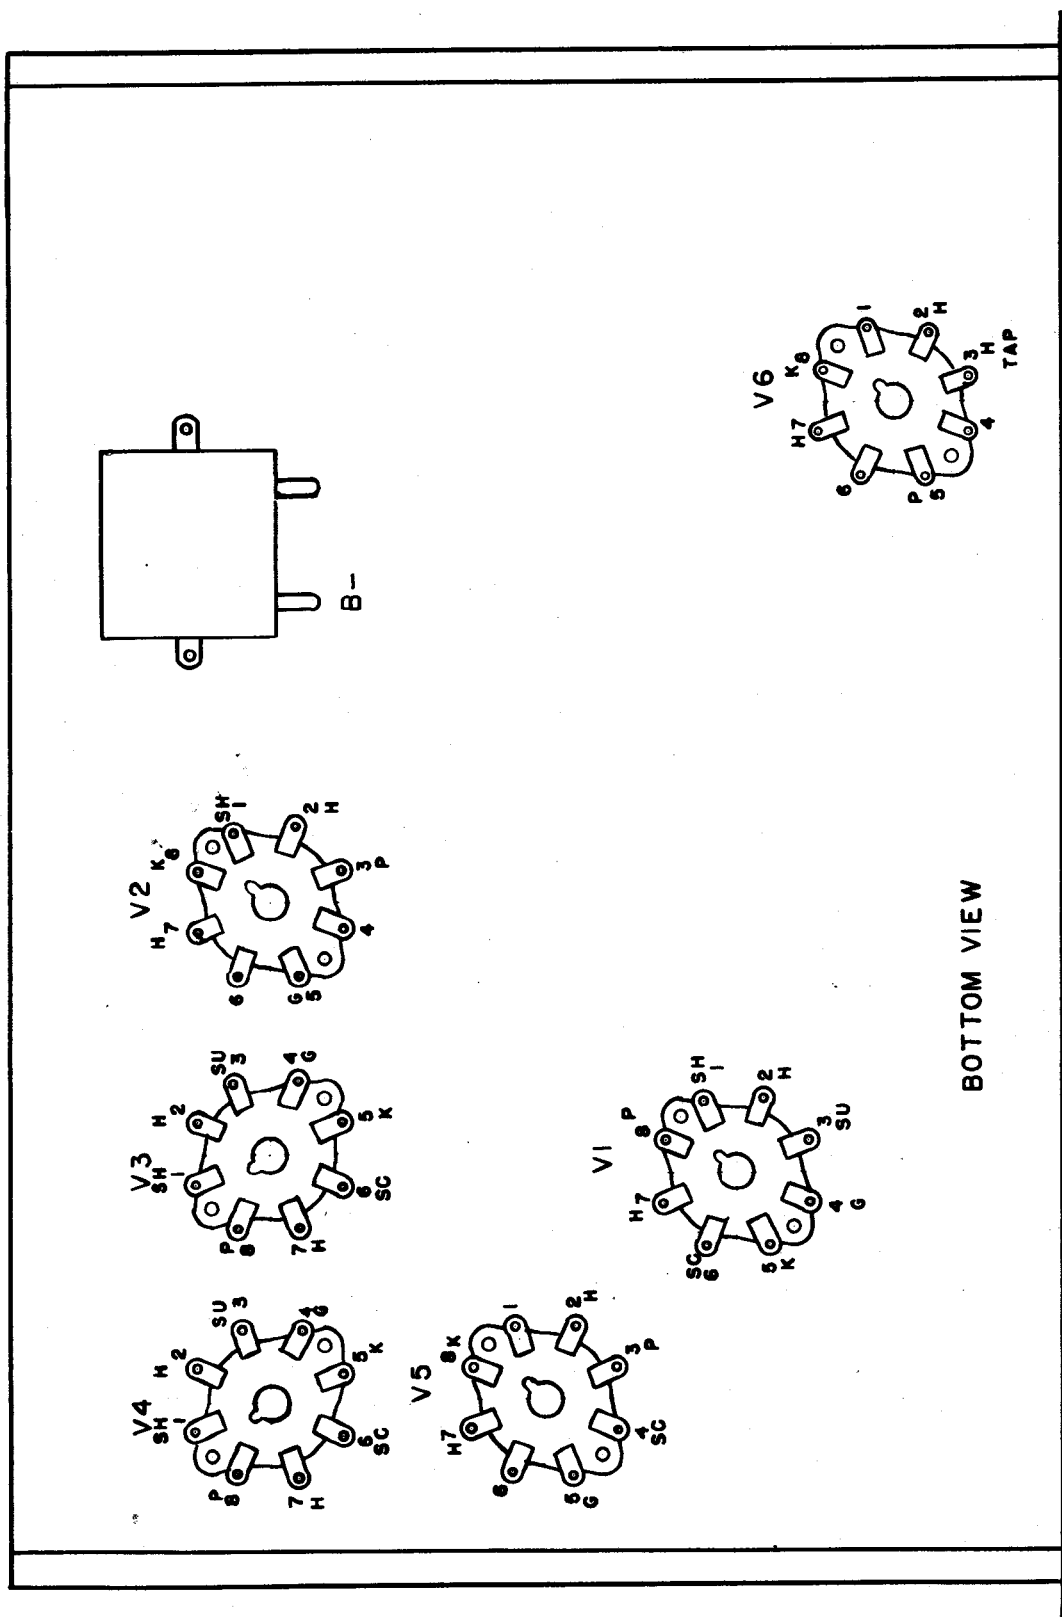

Figure 8—Radio Receiver 128-AY, Tube Socket Location Diagram.
15. Resistance Measurements.—*a.* In the event that the trouble cannot be located by means of any of the preceding tests, it will be necessary to analyze the receiver by means of a series of resistance measurements. The resistance measurements are divided into three groups which are given in tables 6, 7, and 8. In table 6 the resistances from the tube socket terminals to the chassis of the receiver are given. Table 7 gives the resistances of the r-f coils, and table 8 gives various point-to-point resistances. A Tube Socket Location Diagram is shown in figure 8 and a Chassis Location Diagram in figure 9.